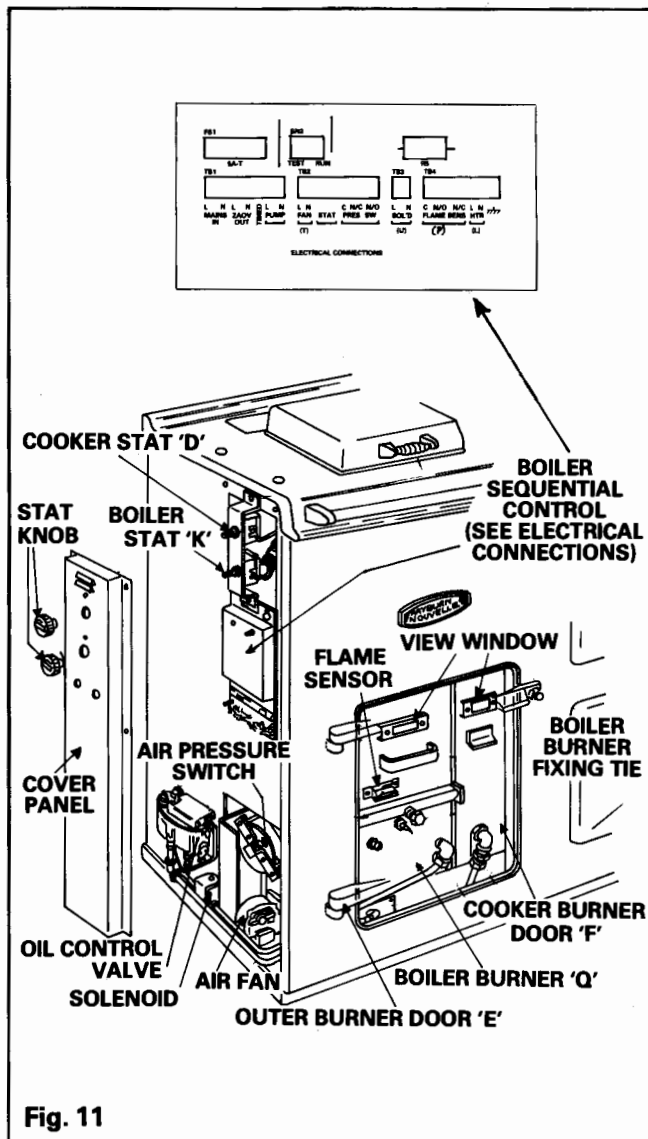

Fig. 11
6. Open the outer burner door E and remove/lift out, the cooker burner door F. Remove electrical cover panel on Left Hand side plate. See Figs. 11 & 15.
7. Carefully prise, lift off and remove 6-way electrical mini-plug connection of Flame Sensor and Ignition Element, at terminal block of Sequence Controller, then break oil pipe connection at the elbow below the boiler burner front tie bar – See Fig. 11.
8. Slacken off boiler burner retaining tie bar bolt, remove tie bar, and holding the strap handle, horizontally withdraw the boiler burner forward gently, until clear of appliance. See Fig. 11.
The boiler burner **Q** is operated by an electrical sequential control box (Fig. 11) and controlled by a boiler thermostat **H**. With electrical power connected and boiler thermostat **H** set at its maximum setting, the airfan will become energised and the lock-out lamp **K** illuminate.
After 2 minutes of ignition element heating, the oil solenoid valve (Fig. 11) and airfan (Fig. 11) will energise, and within a further 20 seconds, oil will be ignited and be visible through the viewing window **M**.
Within 4½ minutes from **START**, the electrical flame sensor (Fig. 11) will confirm the oil burner established, and via the flame sensor changeover switch, permit a continuous cycle of heating.
With boiler temperature attainment, the boiler thermostat **H** switches power to interrupt the oil supply through the oil solenoid (Fig. 11). The fan (Fig. 11) continues to give an overrun, to burn any excess oil in the burner and also to cool down the flame sensor (Fig. 11) which may take up to 9 minutes, depending on the length of boiler burner cycle. With temperature reduction on the flame sensor, the changeover switch reverses and the sequence control is ready for use upon call by the boiler thermostat.